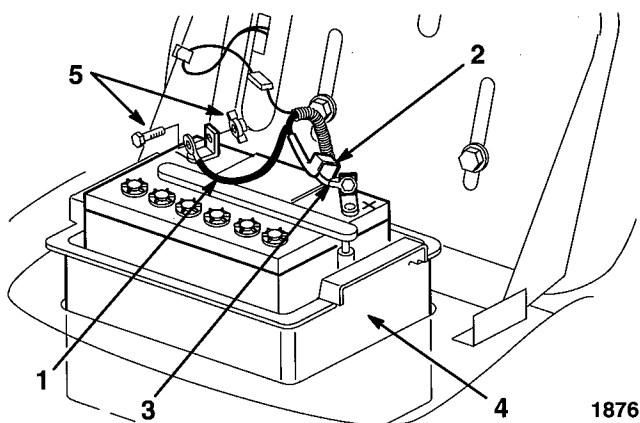

Figure 29
3. Disconnect the negative (black) ground cable from the battery post (Fig. 29).
4. Slide the rubber cover up the positive (red) cable. Disconnect the positive (red) cable from the battery post (Fig. 29).
3. Using the bolt and wing nut, connect the positive (red) cable to the positive (+) battery post (Fig. 29). Slide the rubber cover over the battery post.
4. Using the bolt and wing nut, connect the negative (black) cable to the negative (-) battery post (Fig. 29).